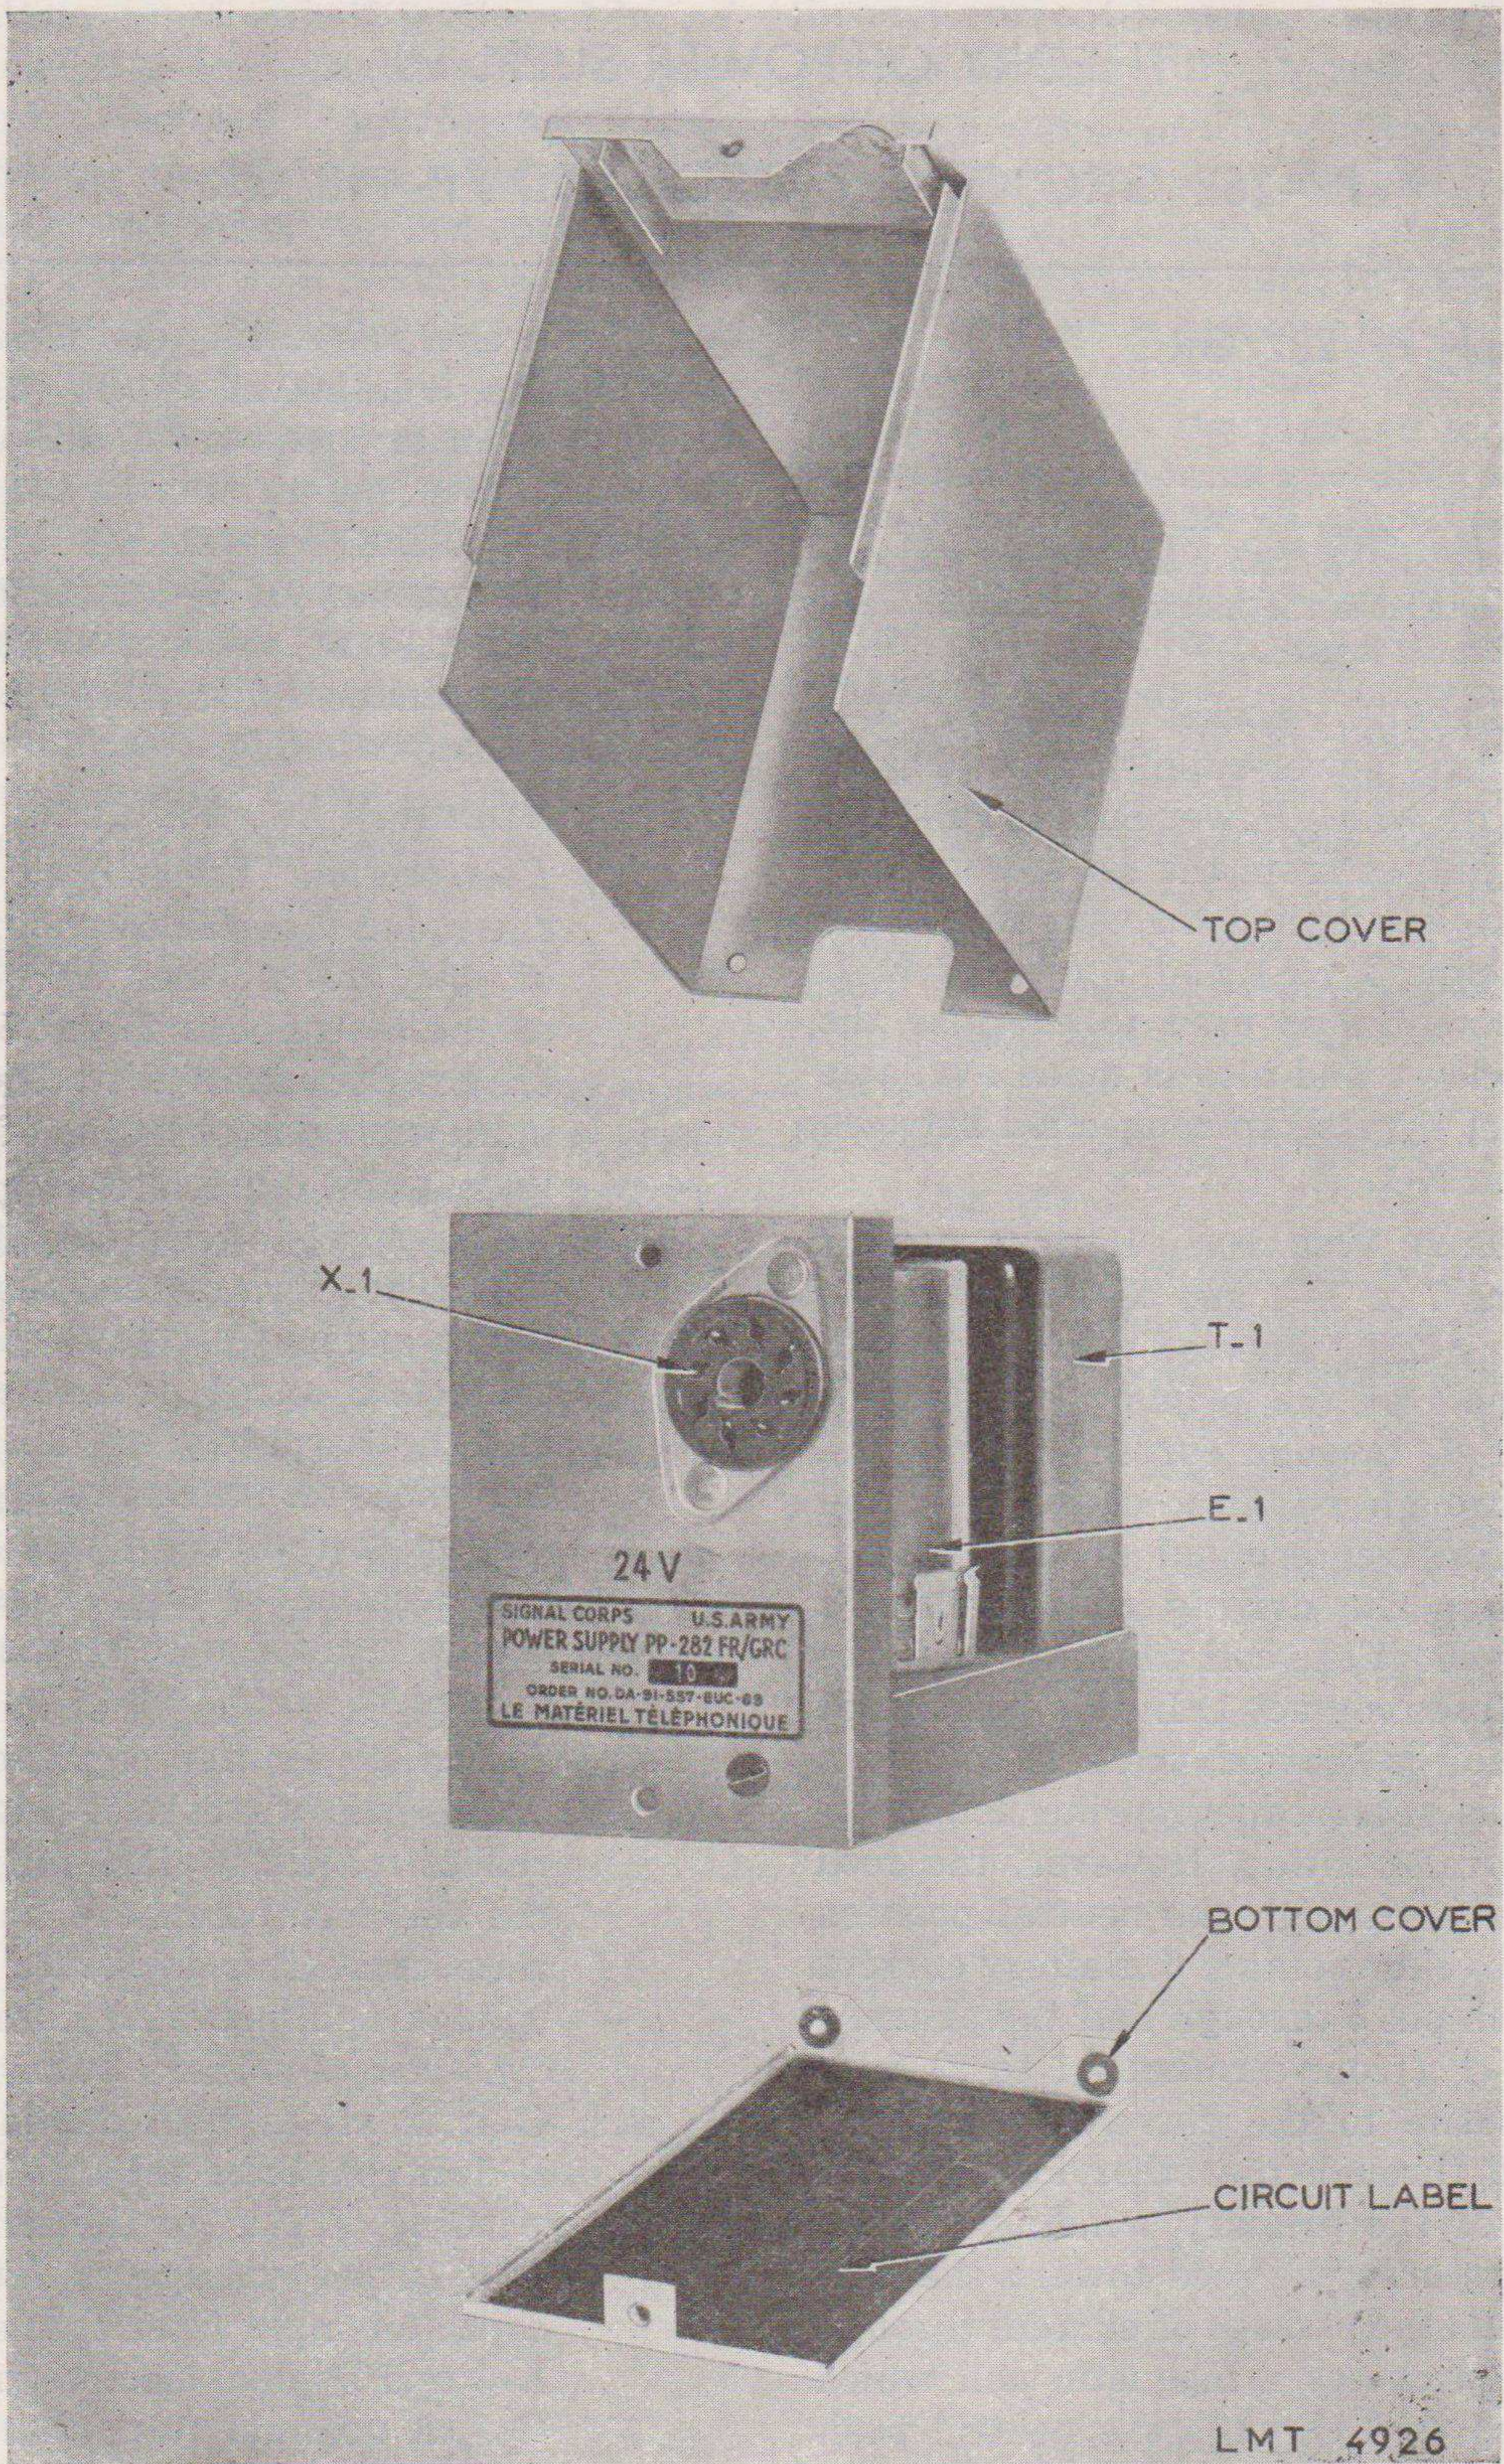
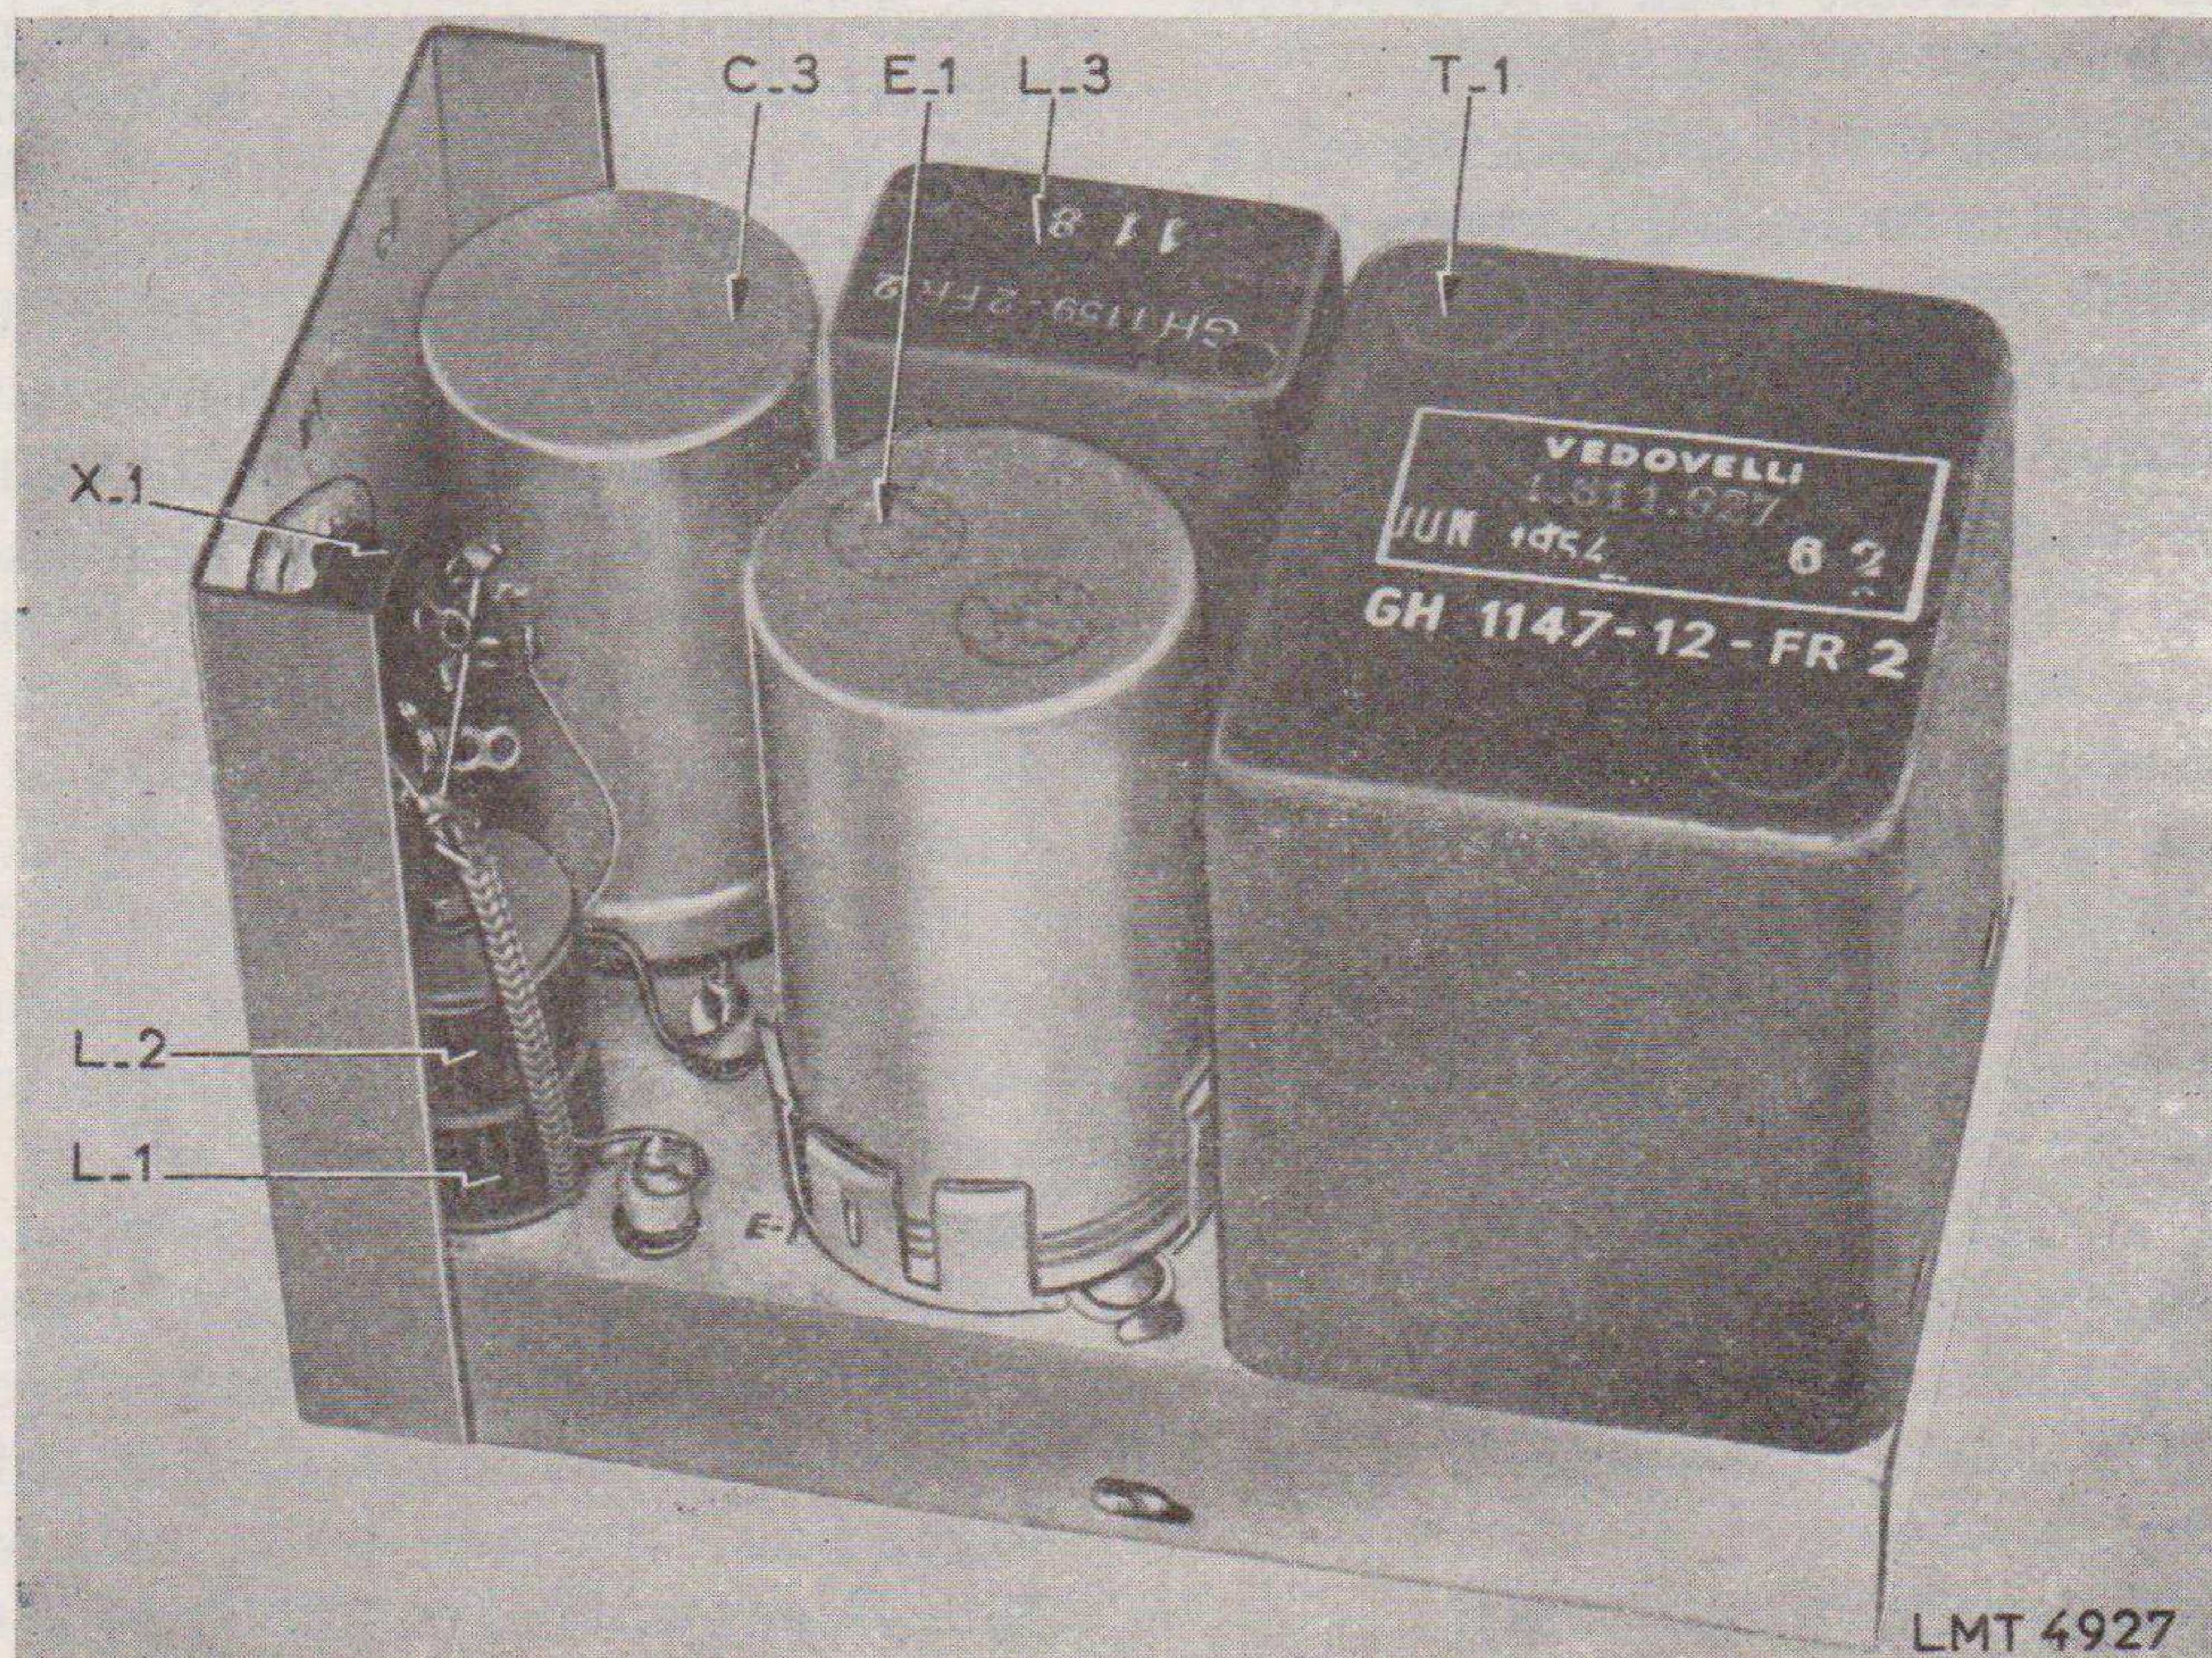
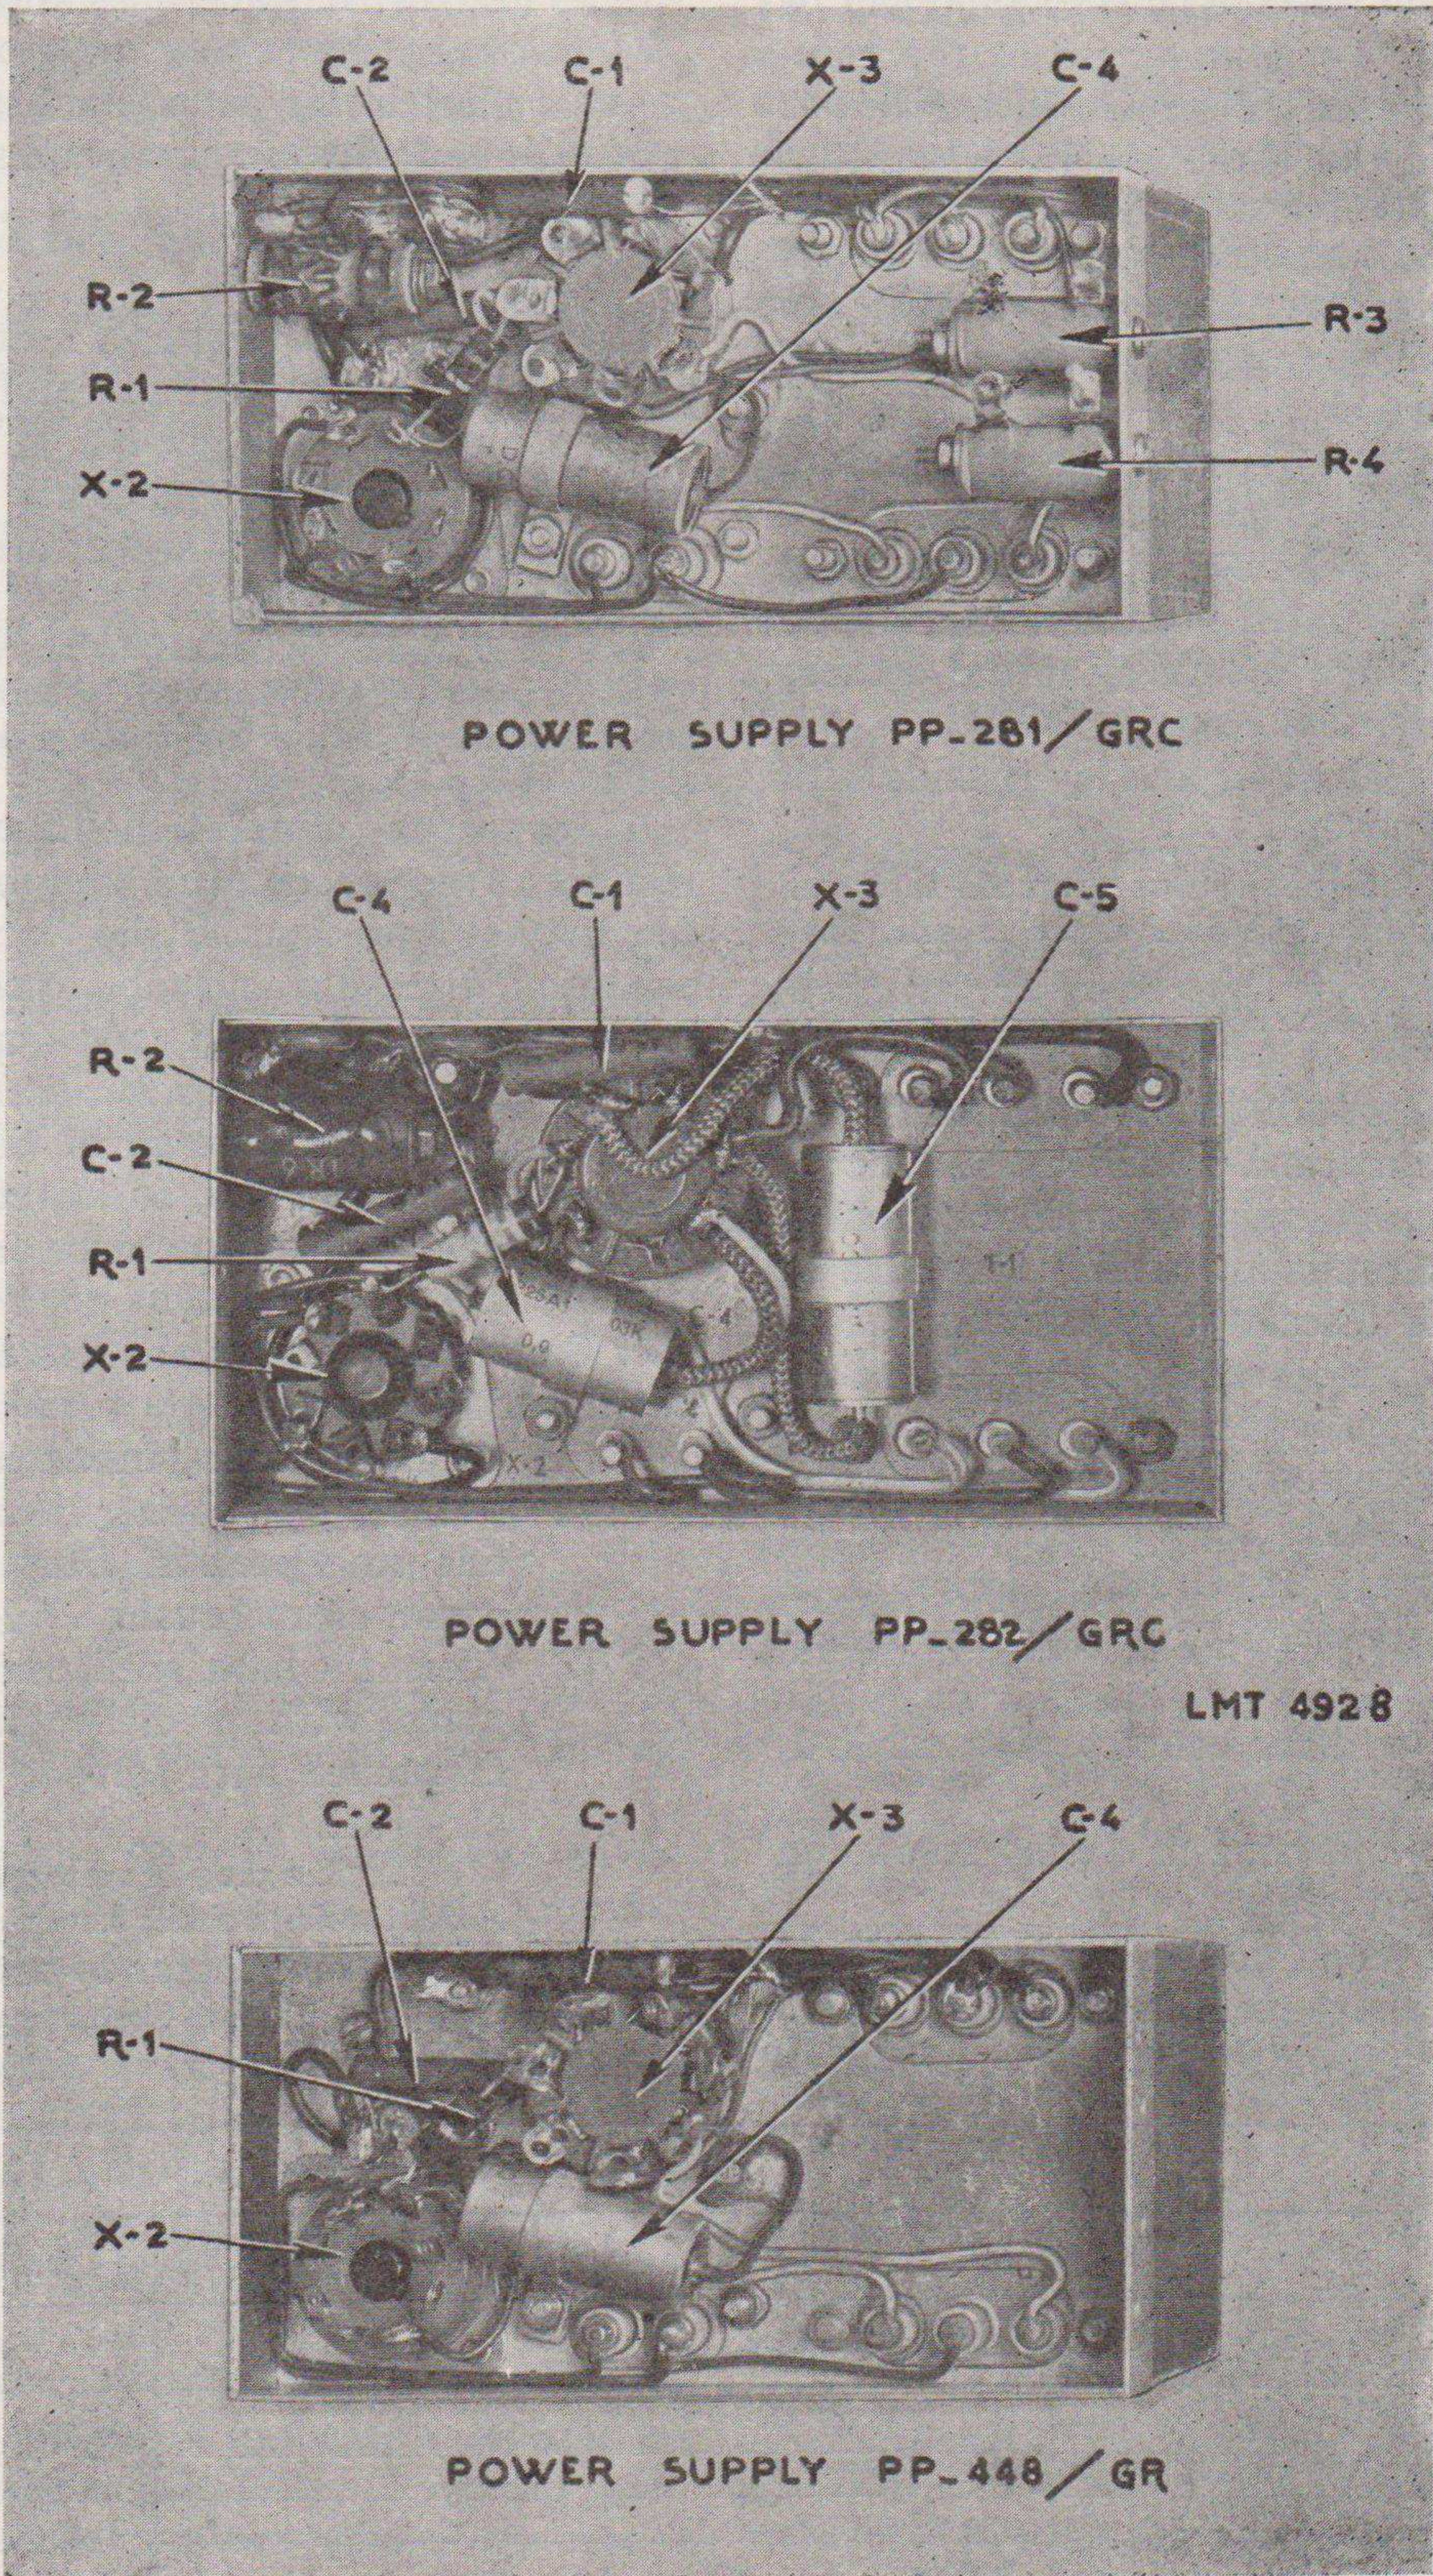

Figure 2.—Power supply PP-282/GRC, disassembled unit.
Figure 3.—Power supply PP-282/GRC, top of chassis.
Figure 4.—Power supplies PP-281/GRC, PP-282/GRC, and PP-448/GR, underchassis.
b. A disassembled unit is shown in figure 2. The top of the chassis (fig. 3) mounts the larger components such as a vibrator transformer, a power filter choke, a plug-in vibrator, a plug-in filter capacitor, and two r-f (radio-frequency) chokes. The underchassis (fig. 4) contains the smaller components and most of the wiring. The
12. Disassembly and Visual Inspection (figs. 2, 3, and 4)
16. Trouble-shooting Procedures (figs. 3 and 4)